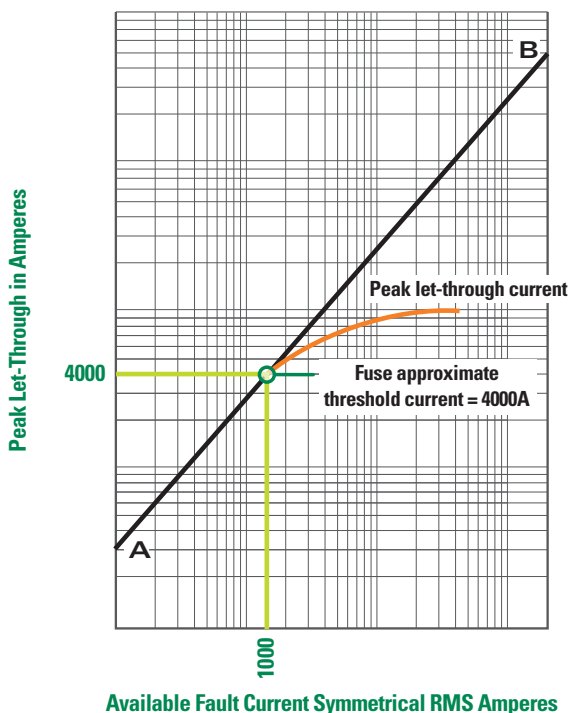

Figure 19 – Determining Threshold Current from Peak Let-through Chart
**Threshold Current** – The minimum current for a given fuse size and type at which the fuse becomes current-limiting. It is the lowest value of available rms symmetrical current that will cause the device to begin opening within the first 1/4 cycle (90 electrical degrees) and completely clear the circuit within 1/2 cycle (180 electrical degrees). The approximate threshold current can be determined from the fuse’s peak let-through charts. (See Figure 19.)